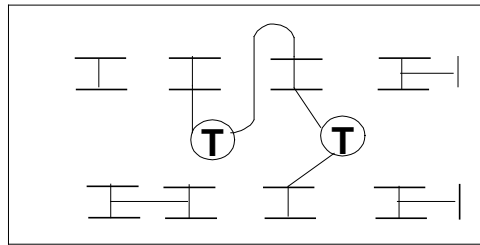

Fig. 6 Wired for 240VAC Conversion
Step 1: Wire Power Transformer Terminal block as illustrated in Figure 6.